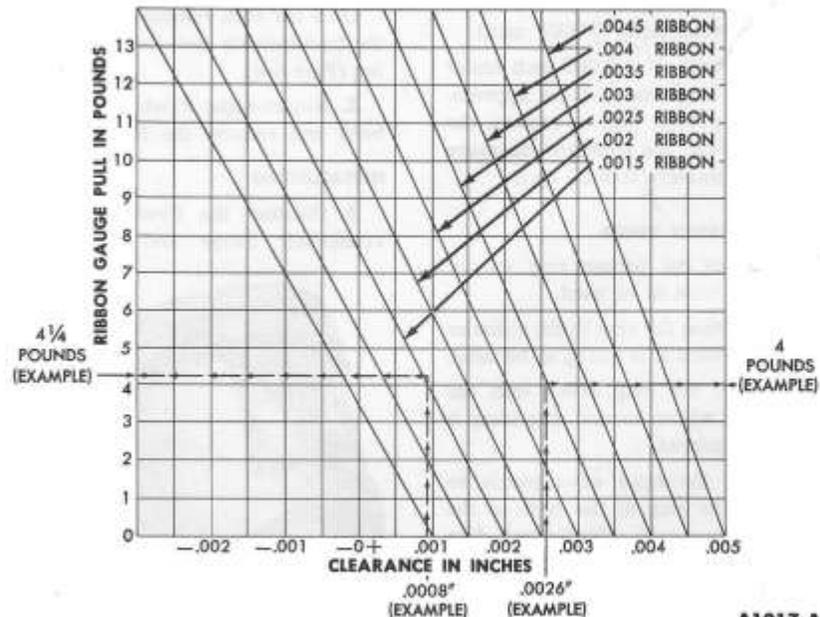

FIG. 67—Piston Clearance Chart
4. Attach a tension scale to the end of a feeler gauge ribbon that is free of dents or burrs. The feeler ribbon should be ½-inch wide and of one of the recommended thicknesses shown in Fig. 67.
In Fig. 67, the diagonal lines represent feeler ribbons of various thick-
Example 1. If a 0.0015-inch feeler ribbon is used and it takes approximately $4\frac{1}{4}$ -pounds pull to remove the feeler ribbon, the clearance is approximately 0.0008 inch. This is determined by locating the pounds pull ($4\frac{1}{4}$) in Fig. 67 and following the line to the right until it intersects with the diagonal line representing the 0.0015-inch feeler ribbon. Read down the vertical line for the clearance (approximately 0.0008 inch).